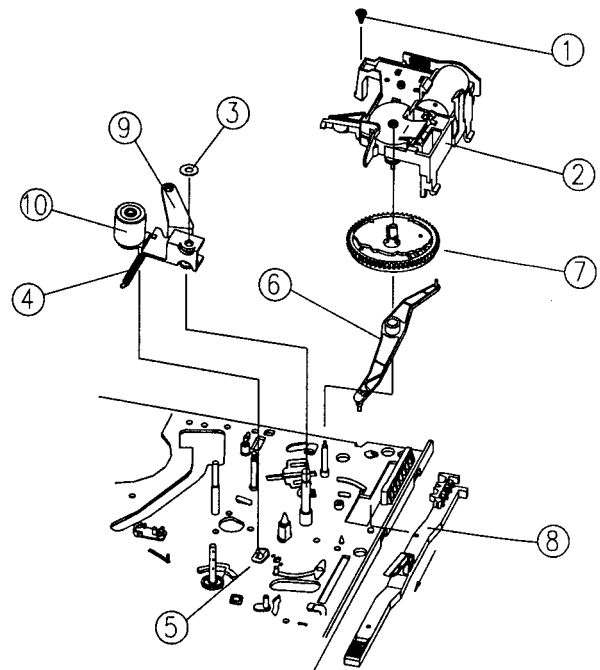

Fig.3-11 L/C BRKT, PINCH LEVER, CAM GEAR, RELAY LEVER, F/L RACK REMOVAL
3-6. L/C BRACKET ASS'Y REMOVAL (See Fig.3-11)
3-7. PINCH LEVER TOTAL ASS'Y REMOVAL (See Fig 3-11)
3-8. CAM GEAR, RELAY LEVER AND F/L RACK REMOVAL (See Fig.3-11)
- Remove the CAM GEAR ⑦ from the MAINBASE. (Fig.3-11)
- Remove the RELAY LEVER ⑥ from the MAINBASE. (Fig. 3-11)
- Remove the F/L RACK ⑧ from the MAINBASE by pulling it in the direction of the arrow.